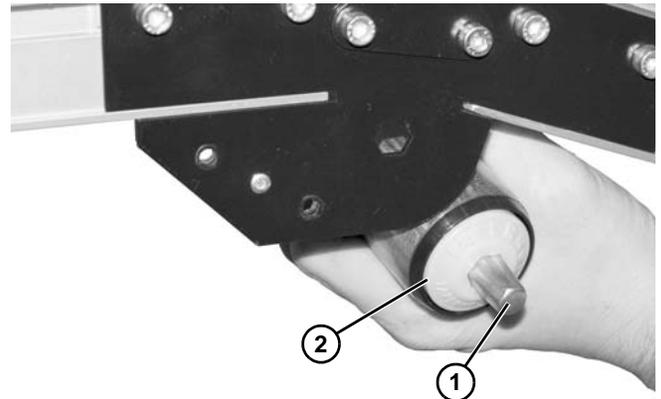

Figure 138
- b. For 5" (127 mm) or wider conveyor, push spring-loaded shaft ends (Figure 138, item 1) inward. Remove roller (Figure 138, item 2).